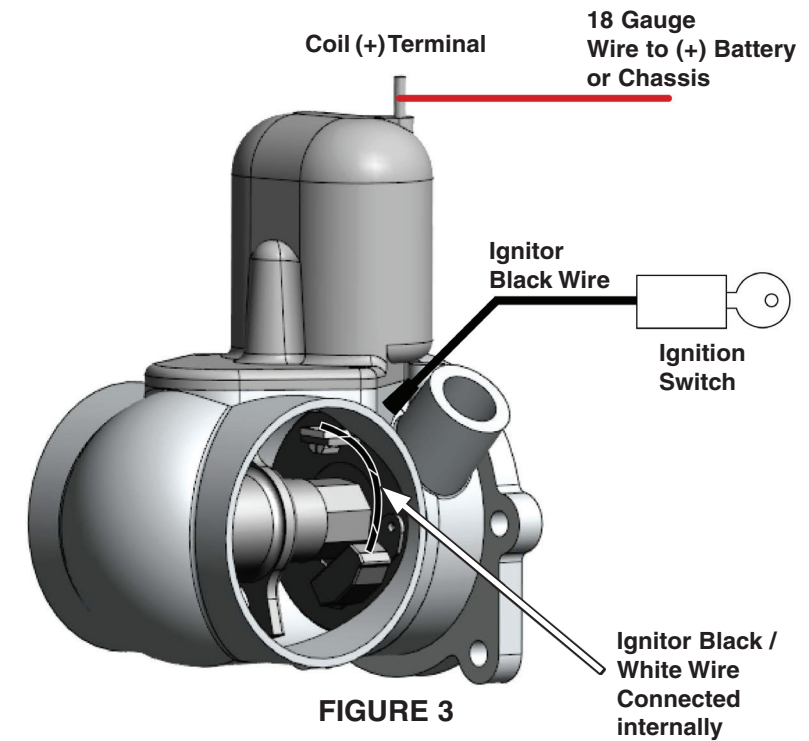

FIGURE 3
- Connect the black wire to the wire coming from the ignition switch. SEE FIGURE 3.